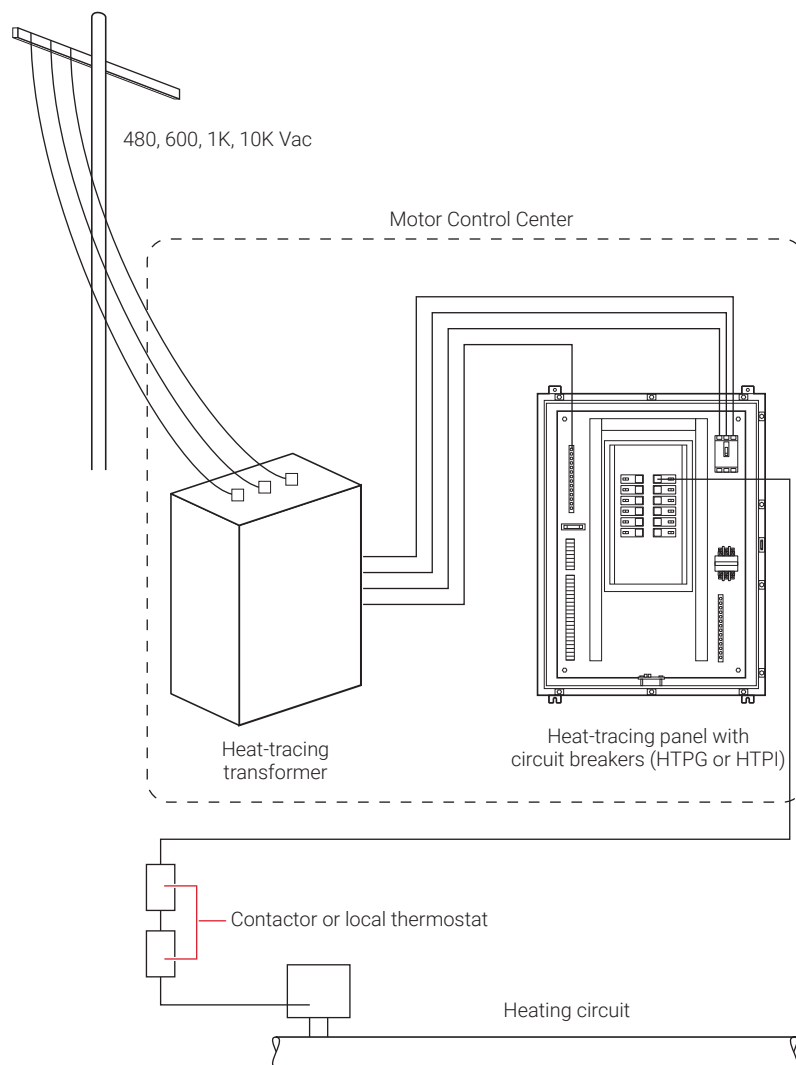

Fig. 1 Typical heat-tracing power distribution system
Fig. 1 represents a typical heat-tracing power distribution system. At the Motor Control Center (MCC) the voltage is reduced to the level required for the heat tracing. The transformer supplies this reduced voltage to the distribution panelboard, which contains the main circuit breaker and branch circuit breakers. From the branch circuit breakers (CB), the voltage is transferred to the heater's power connection box via wire/conduit or cable. This section will assist you in sizing and specifying the transformer and heat-tracing panel.